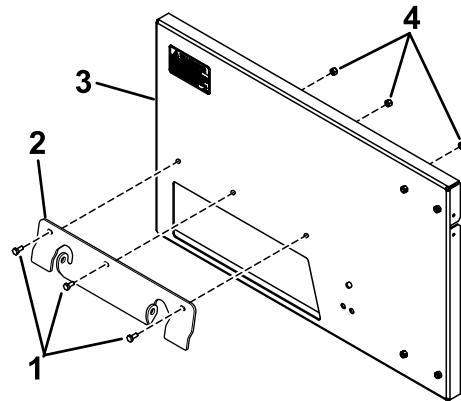

Figure 2
2. Install the mounting bracket to the back plate with 3 bolts (1/4 x 5/8 inch) and 3 locknuts (1/4 inch); Figure 2.